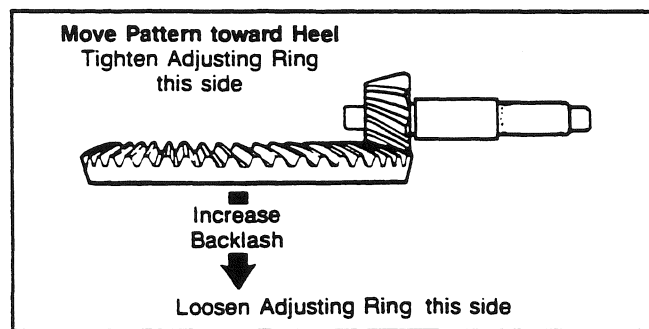

Fig. 87
b) Increase backlash to move the tooth contact patterns toward the heel of the ring gear teeth (see Fig. 87).